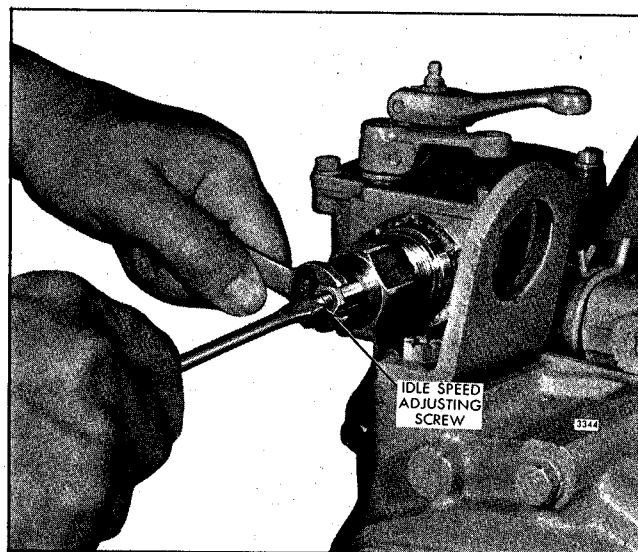

Fig. 8 - Adjusting Engine Idle Speed
4. Start the engine and adjust the idle speed screw to obtain an idle speed of 500 rpm (Fig. 8).
1. With the engine running at normal operating temperature and with the buffer screw backed out to avoid contact with the differential lever, turn the idle speed adjusting screw (Fig. 8) until the engine idles at the recommended idle speed.